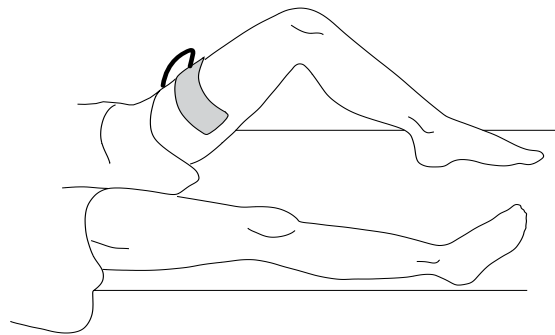

Figure 3. Dispersive electrode placement
4. Prepare the patient as needed to perform the procedure, including attachment of the dispersive electrode to the patient. The dispersive electrode should be placed as close as practical to the surgical site. Select a site that is well vascularized which will permit later inspection without disturbing the sterile field. To obtain optimal results, ensure that the site is clean, dry, and free of excessive hair. *Figure 3* shows a commonly used site for the LETZ procedure.